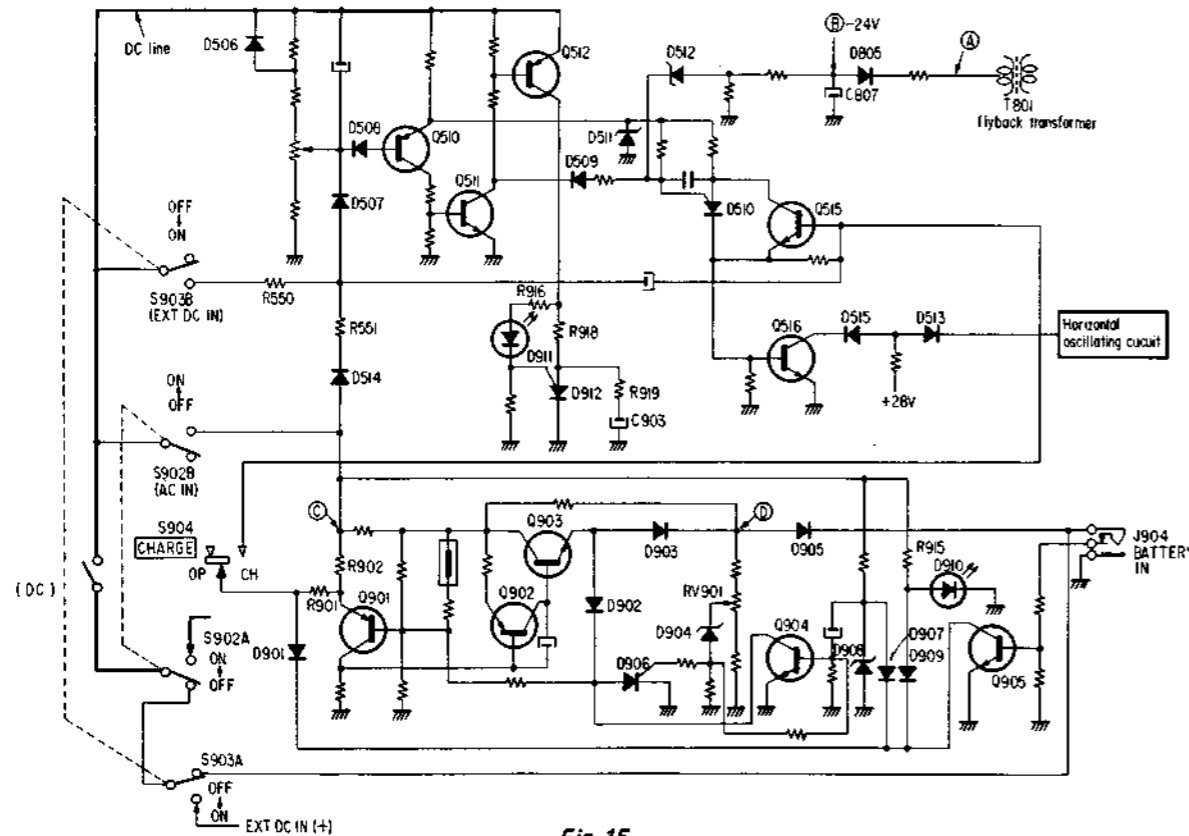

Fig. 15.
The circuitry shown in Fig. 15 is the one extracted from the circuits on the D, X1, X2, U, and J boards. The following description on the circuit operation is made following the circuitry.
This circuit can charge the battery only in the AC-IN state. When the power cord is plugged in the AC connector and the power switch of the set is turned on, the power (AC 120V) is rectified in D601 and C602 on the F board via the power switch (AC) and the power transformer. (Refer to the schematic diagram in the service manual.) The resultant dc voltage is supplied to the DC line on the D board via S902A and the power switch (DC) shown in Fig. 15. The current from the DC line is charged in the